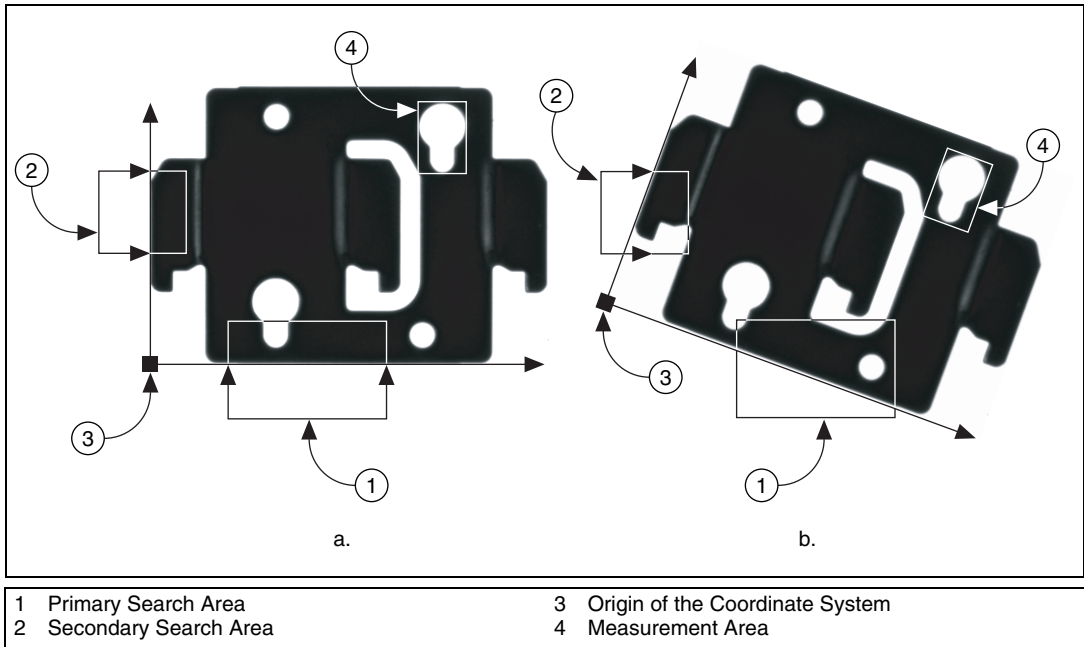

Figure 5-3. Locating Coordinate System Axes with Two Search Areas
- b. If you use `imgqFindTransformRects()`, specify two rectangular objects, each containing one separate, straight boundary of the object, as shown in Figure 5-3. The boundaries cannot be parallel. The regions must be large enough to include the boundaries in all the images you want to inspect.